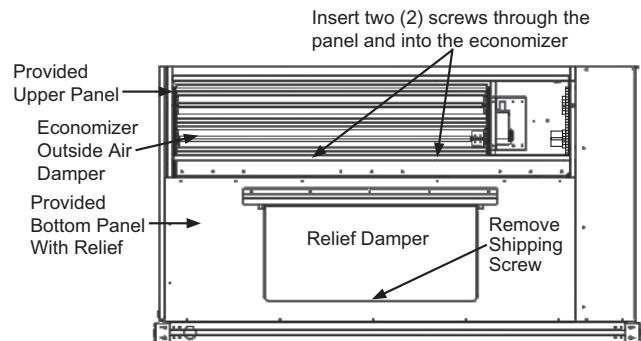

Fig. 9 — End View of Vertical Unit
10. Install the upper end economizer panel over the economizer's outside air damper, above the bottom panel. Screw the panel in place, then screw the panel into the economizer in 2 places. (See Fig. 9.)